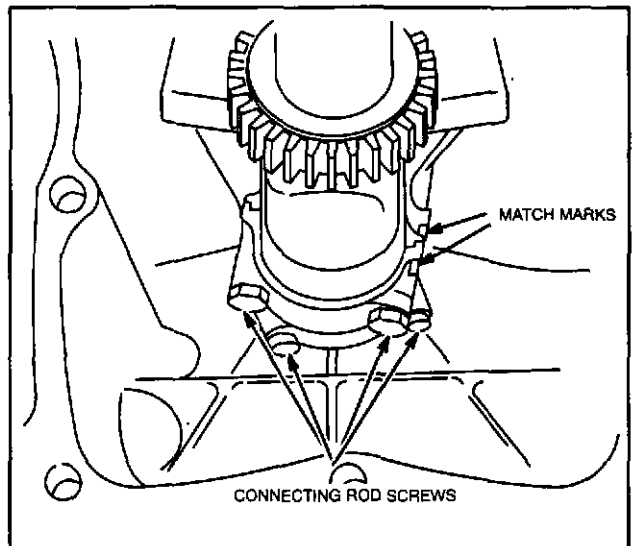

Fig. 14 - Match Marks
Clean and oil crankshaft crankpin. Pull connecting rod against crankpin and install rod cap with match marks aligned, Fig. 14. Install connecting rod screws.
Torque connecting rod screws, using Torque Wrench, Tool #19197, to 13 Nm (115 in. lbs.), Fig. 14. Rotate crankshaft two (2) revolutions to check for binding. Rod should also be free to slide sideways on crankpin.